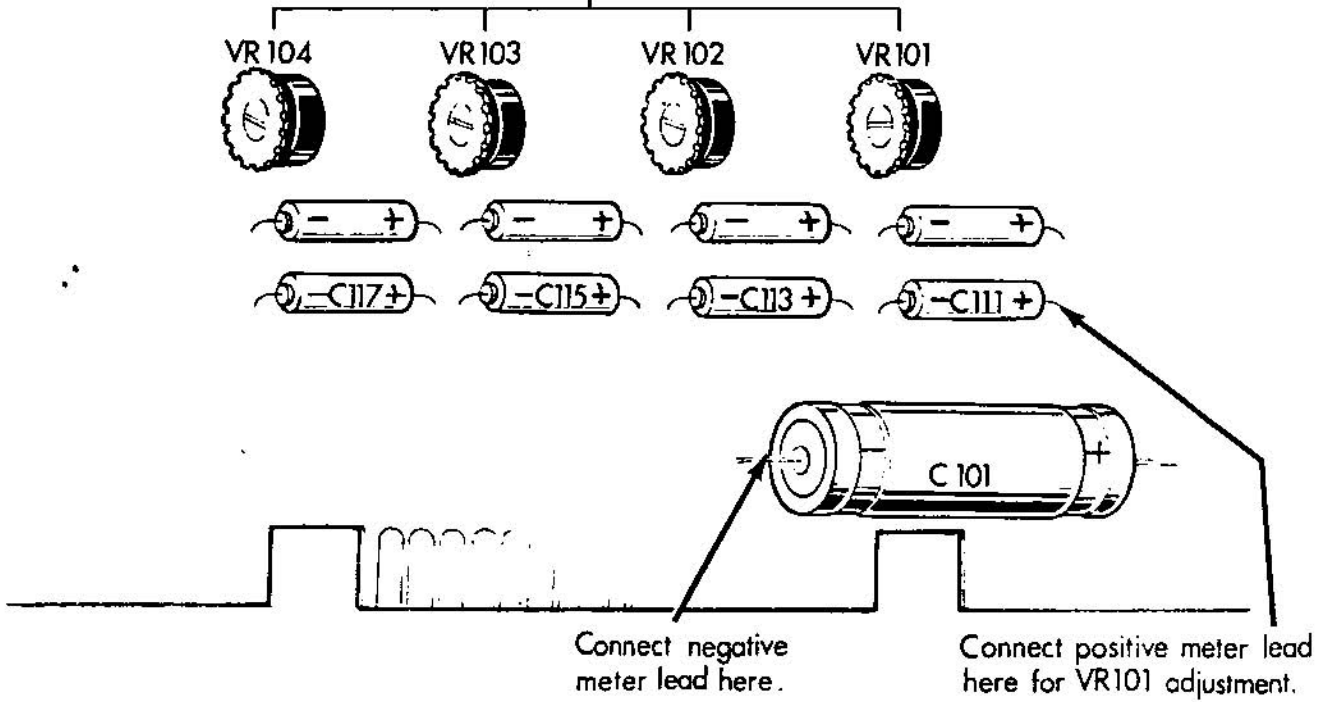

Figure 5
Joystick Amplifier Adjustment - (Refer to Figure 5.) The "Joystick" Amplifier Adjustments are factory set and do not normally require readjustment; except when the EG-1010 Logic Board is changed, or if either of the "Joysticks" are replaced. There are two controls for each UFO. The adjustments equalize the output voltage of the "Joystick" amplifiers. When properly adjusted, the UFO's will not drift horizontally or vertically with the "Joysticks" in the upright (rest) position, in Play Condition. This drift condition does not normally affect game play unless the "Joystick" amps are considerable out of adjustment. The adjustments are relatively simple and are performed using a DC voltmeter.
- 3) Observing correct polarity, connect the negative meter lead to the negative side of C101 (500 mfd capacitor), as shown in Figure 5.